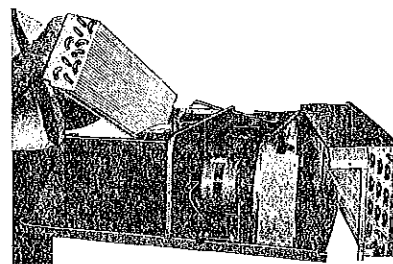

FIGURE 14
5. Remove screws holding evaporator coil in place and pull back out of the way, see Figure 14. **NOTE: When pulling these coils out, be careful not to damage tubing connected to coil.**